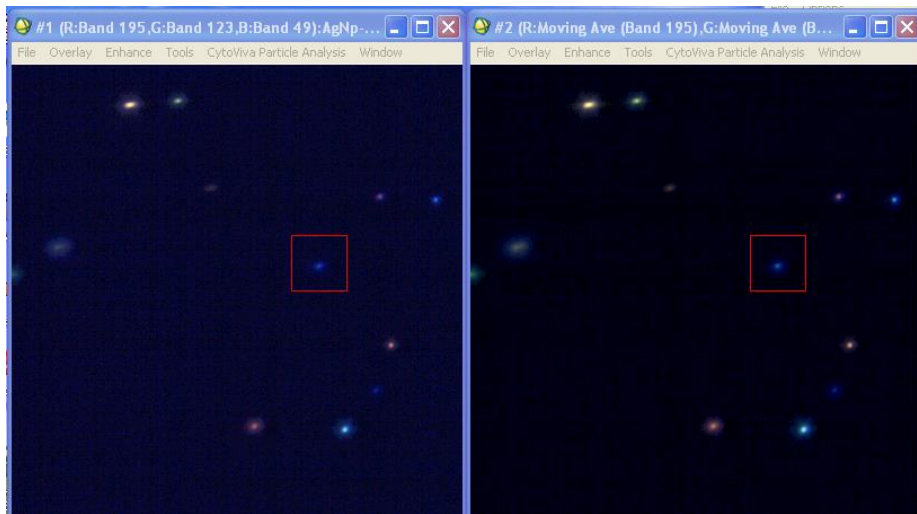

Figure 11L. Original and Filtered Image
- The filtered data cube will open. On the left is the original image and on the right is the smoothed image (see Figure 11L).